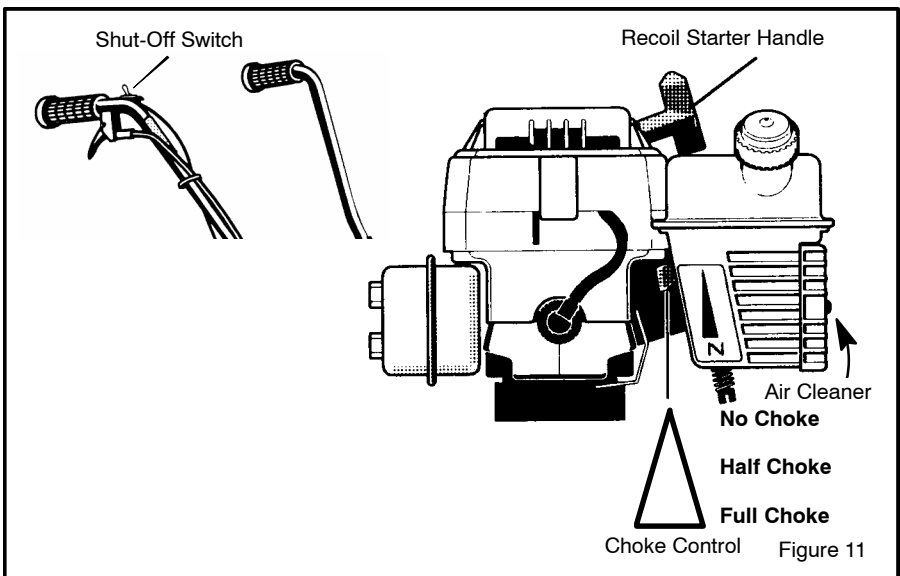

Figure 11
2. Move the **Shut-off switch** to the ON position (see Figure 11).